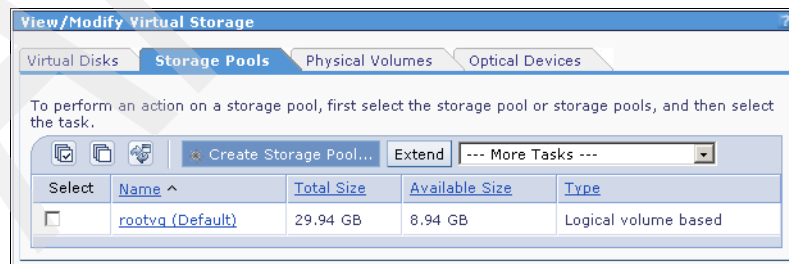

Figure 4-1 Media library - create storage pool
1. Click **View/Modify Virtual Storage** in the left menu under Virtual Storage Management. Then click the **Storage Pools** register card. Create a new storage pool by clicking **Create Storage Pool**. See Figure 4-1.